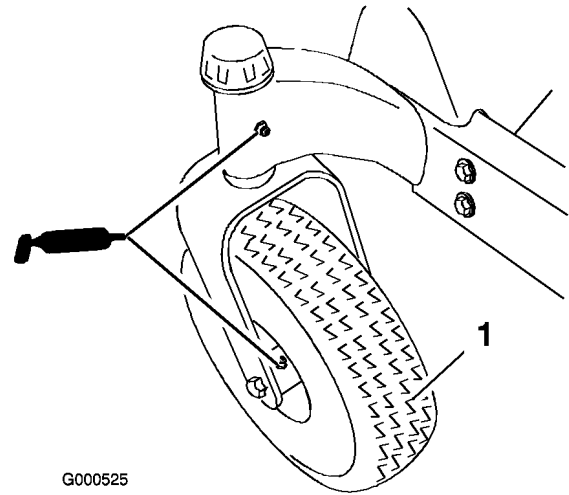
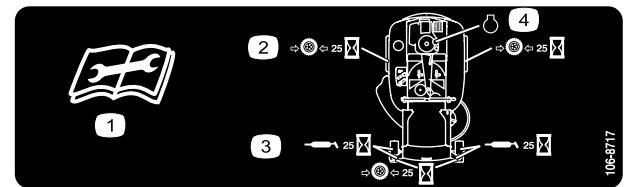

Figure 19
Figure 20
4. Connect a grease gun to each fitting (Figure 19 and Figure 20). Pump grease into the fittings until grease begins to ooze out of the bearings.
Grease the front caster pivots and wheels (Figure 19).
3. Clean the grease fittings (Figure 19 and Figure 20) with a rag. Make sure to scrape any paint off of the front of the fitting(s).